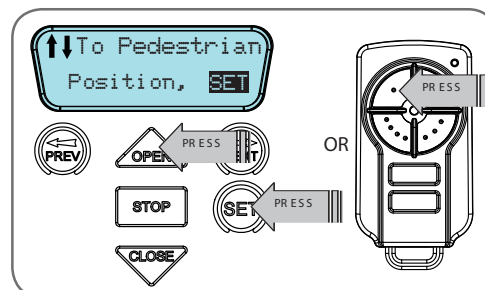

fig 47
1. Press OPEN button on the wall control unit or button 1 on the transmitter to move door to desired pedestrian access position (Fig. 47).